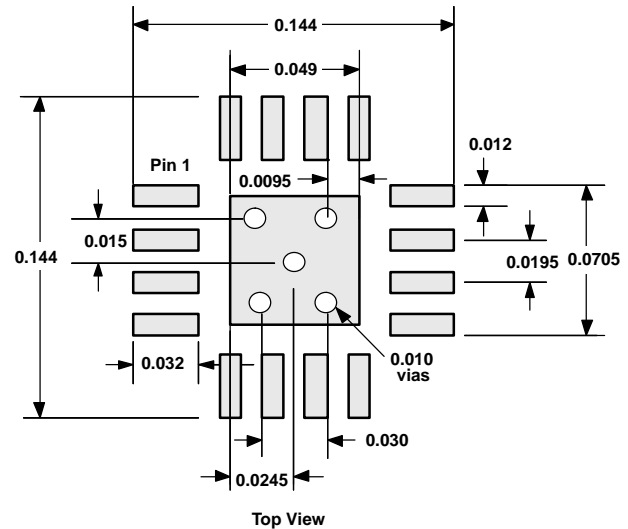

Figure 61. QFN Etch and Via Pattern
9. The THS4508 recommended PCB footprint is shown in Figure 61.